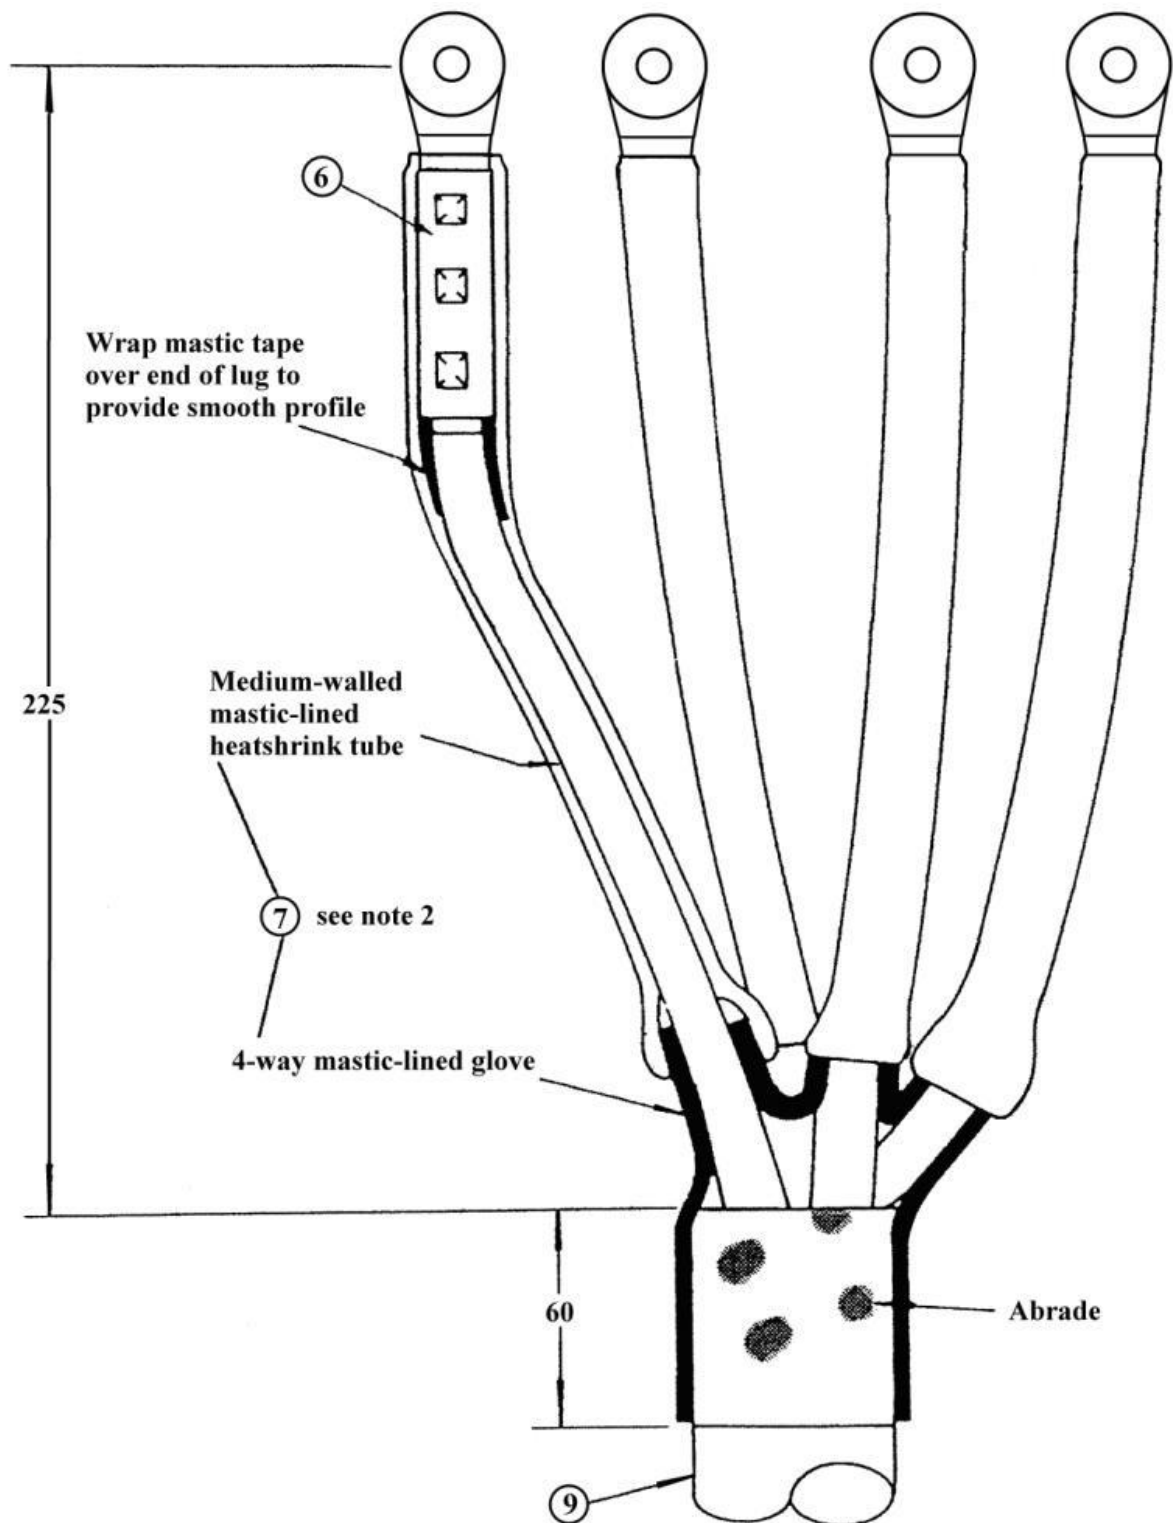

Figure 8.2 – Detail B: Cable Terminations Details
1. Cover the bolted connection area with fibreglass tape to keep it free from any adhesives flowing from item 5.
3. Abrade the cable sheath to the dimensions shown on Figure 8.2.